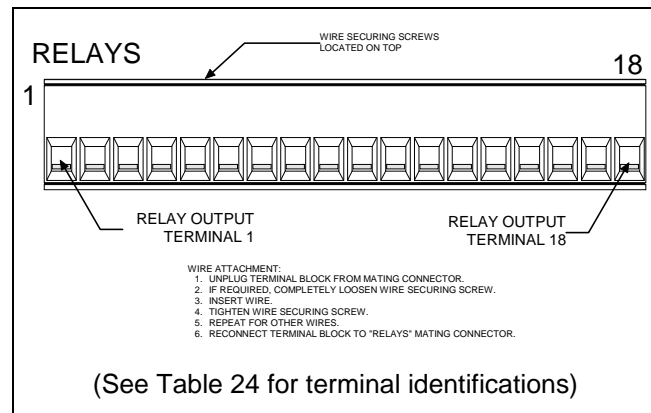

Figure 10 – Relay Terminal Block At Enhanced Audio Enclosure
- ❑ As required, connect the relay contact outputs to external equipment. See Table 24 and Figure 10. Specified contact rating for all relays is 0.75 amps at 26 Vdc. Open contact isolation is specified to 500 Vrms at 60 Hz. Isolation between any relay terminal and the Enhanced Audio Enclosure's ground is also specified to 500 Vrms at 60 Hz.